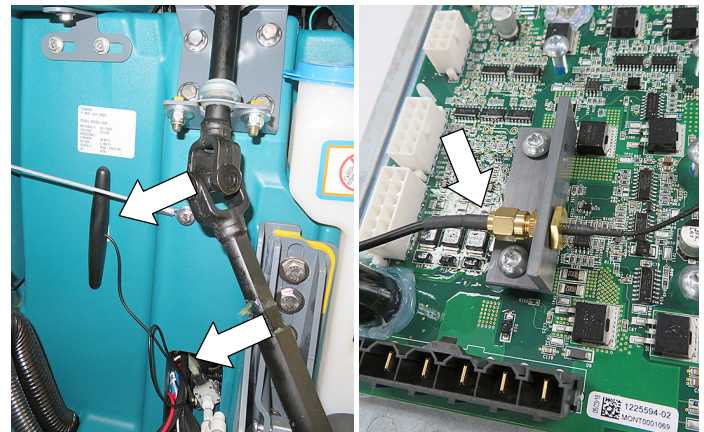

Fig. 8
3. Adhere the antenna to the machine as shown and route the antenna wire to the new IRIS circuit board. Connect the antenna wire to the circuit board as shown (Figure 8). Secure the antenna wire with a cable-tie.